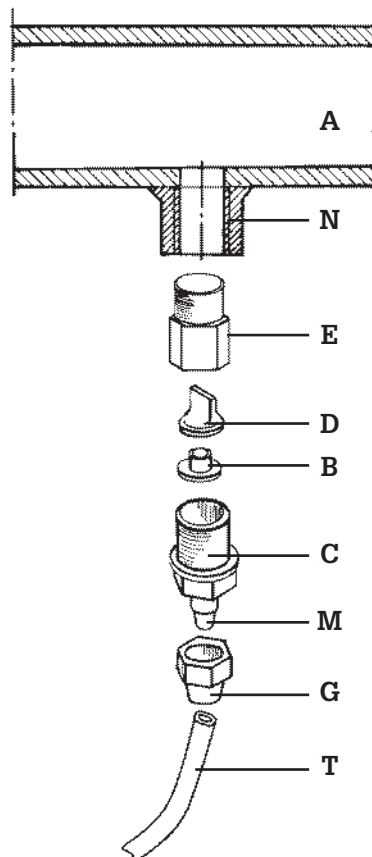

Fig. 8
- f. - Select the most appropriate injection point on a pipe of the plant to be treated and there fit a 3/8" female steel gas thread connector (similar to BSPm). This connector is not supplied with the pump. Screw the injection valve to the gas connector, inserting a gasket as shown in Fig. 8. Then connect the discharge hose to the conical connector on the injection valve and fix it with the supplied tube nut G. The injection valve also acts as no return valve.
### 3.1 - INJECTION VALVE INSTALLATION DIAGRAM Fig. 8